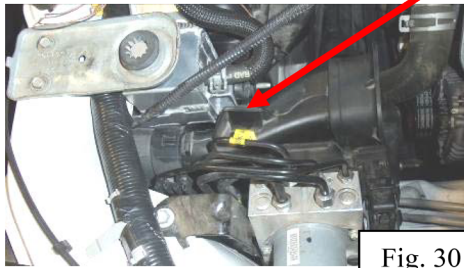

Fig. 30
27. Place the air filter intake duct on the driver side of the radiator (Fig. 30). Make sure the radiator is still loose in the mounts to ease installation.